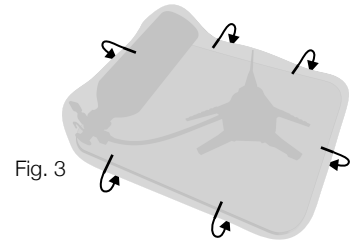

Fig. 3
3. Tuck all sides of the blanket under the stove board to contain flames (Fig. 3)